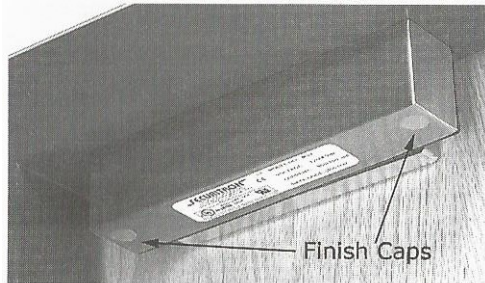

Figure 18. Installing the Tamper Finishing Caps
4. INSERT the tamper finish caps into the mounting screw holes (see Figure 18, "Installing the Tamper Finishing Caps").